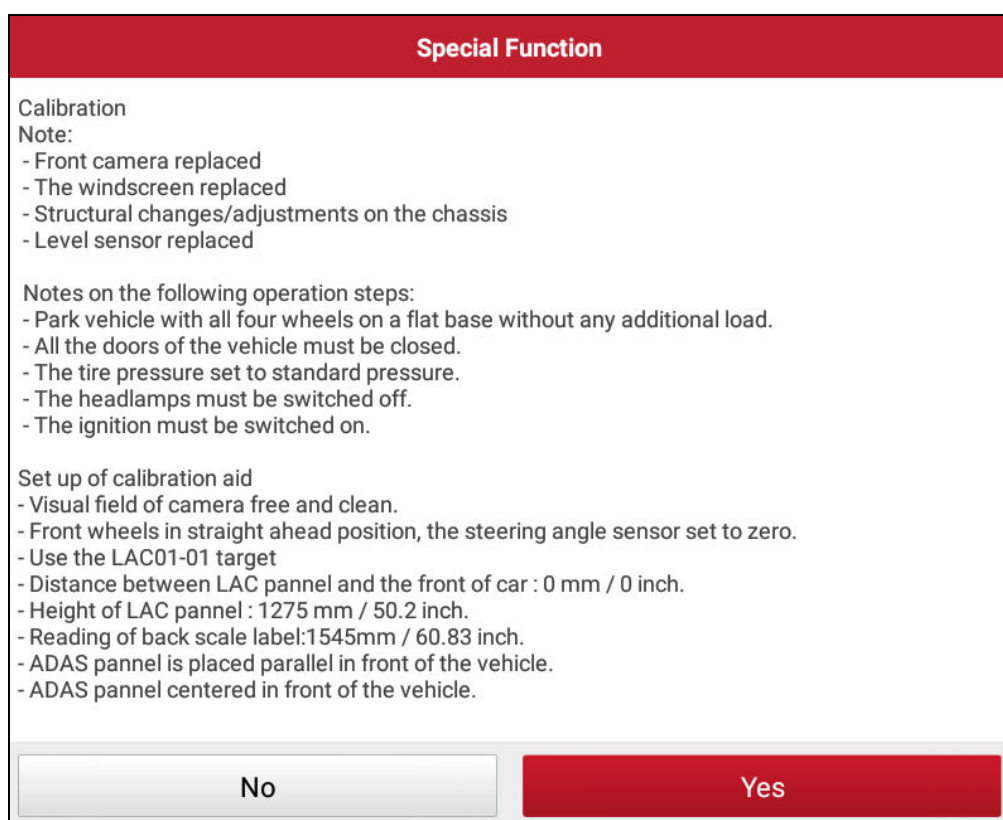

Fig. 5-3 (The screenshot varies from vehicle to vehicle.)
prompt message in Fig. 5-3, choose the corresponding calibration reference pattern and attach it to the calibration panel (Refer to Chapter 4.1.5).
C. To set up the height of the calibration frame: Place the laser range finder in position and keep the screen facing down. Use the Rocker switch on the beam lifter to move the calibration panel up to the height indicated in the diagnostic tool (Fig. 5-3).
- C. To set up the height of the calibration frame: Place the laser range finder in position and keep the screen facing down. Use the Rocker switch on the beam lifter to move the calibration panel up to the height indicated in the diagnostic tool (Fig. 5-3).